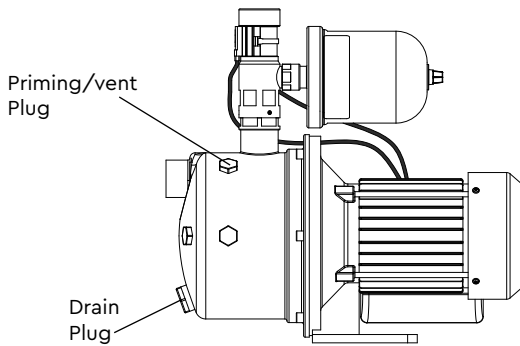

Fig. 9
4.13 **Priming:** Prior to switching the pump on and connecting the outlet hose to the system pipework the pump chamber must be primed. The pump must be primed (filled with water) before starting. Turn on water supply, prime and vent the pump by unscrewing the priming plug (Fig. 9) slowly until all air escapes and water emerges. Re-tighten the plug.
First ensure both suction and delivery hose connections are airtight. Remove the priming plug (Fig. 9) and slowly fill the pump body with water, whilst allowing the air to escape. Replace the plug.